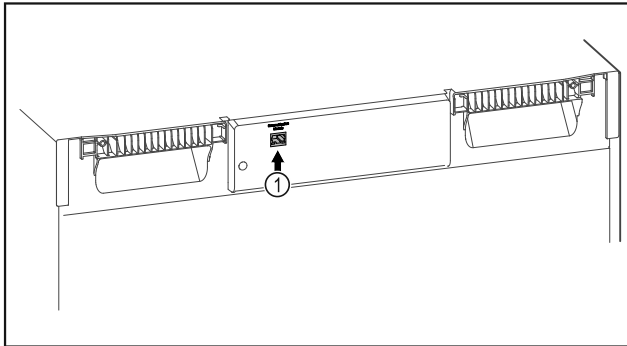

Fig. 142
- SmartModule Fig. 142 (1) is in use.